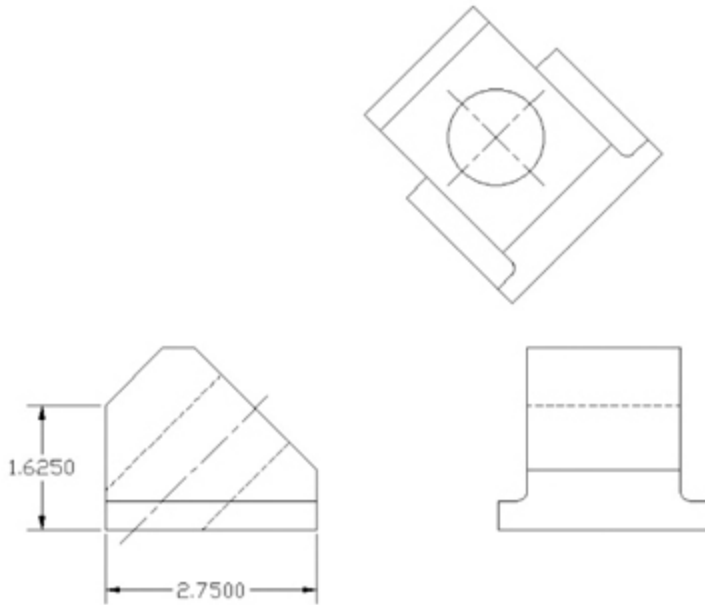

Figure 13-12
- 5** Place the dimension line as shown in Figure 13-12. AutoCAD places the dimension and ends the **DIMLINEAR** command.
- 9** Place the dimension line as shown in Figure 13-12. AutoCAD places the dimension and ends the **DIMLINEAR** command.
- 10** Save your drawing as **CH13_EXERCISE1**. Your drawing should look like Figure 13-12.